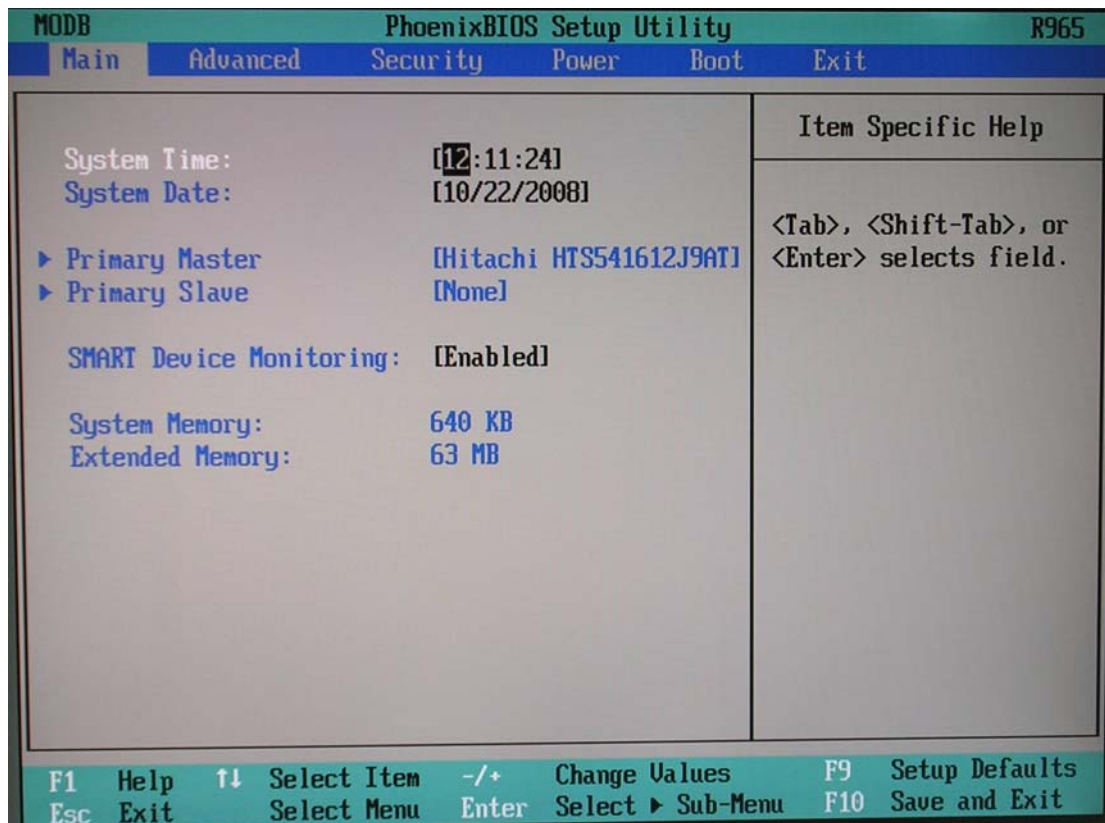

Figure 8-55 BIOS Main Tab
- 1.) From the BIOS main menu (see Figure 8-55), select the **<Advanced>** menu and press **<Enter>**.
- 4.) Press **<Esc>** to return to the main BIOS screen (Figure 8-55 on page 8-68).
- 7.) Press **<Esc>** to return to the main BIOS screen (Figure 8-55 on page 8-68).
- 10.) Press **<Esc>** to return to the main BIOS screen (Figure 8-55 on page 8-68).